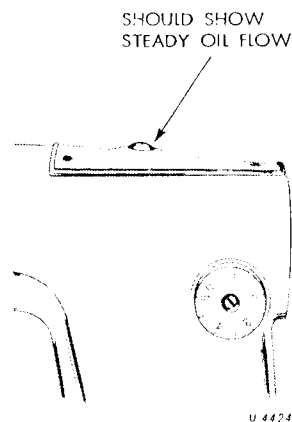

Fig. 3 Oil Flow Window
**CAUTION:** Correct lubrication is indicated by a continuous stream of oil passing the oil flow window while machine is running, as shown in Fig. 3.